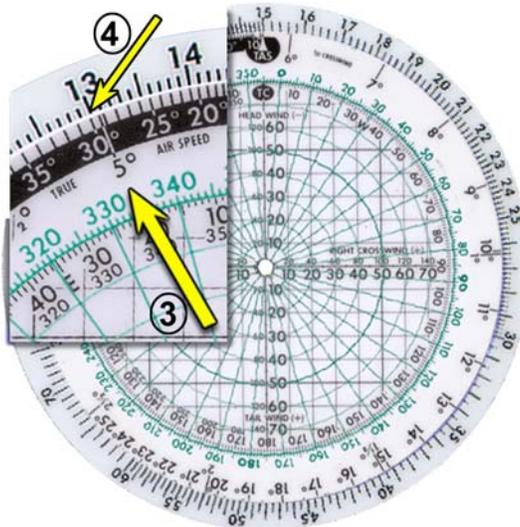

Figure 4.6-7 In-Flight Wind Calculation 3 & 4
- Use 10% rule to estimate crosswind and then input DA (5 degrees) on middle wheel (Figure 4.6-7).
- Read crosswind (13 kts) above DA (Figure 4.6-7). Round to the nearest whole knot.